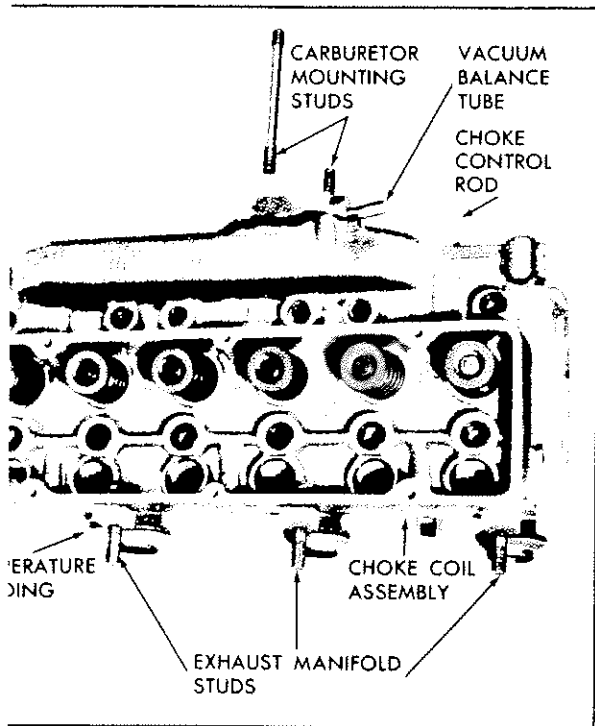

Fig. 91—Cylinder Head Assembly
1. Install long stud 5/16"-18-24 x 4-13/16", using Tool J-8534-2, in intake manifold flange (fig. 91) on left and right bank cylinder heads to a length of 4-3/16".
Install short stud 5/16"-18 x 24 x 2-1/4", using Tool 3354-2 in intake manifold flange 91) on left and right bank cylinder heads to a length of 1-5/8". Install exhaust manifold studs (fig. 91) using Tool 3354-3 into cylinder head to a length of 31/32".
NOTE: Cylinder Heads are identical except for location of vacuum balance tube hose connector (fig. 91) which is on one side of carburetor mounting pad on the right bank and the other side of the left bank. Install tube in hole to front of cylinder head and plug in hole to rear of cylinder head (as positioned on vehicle).